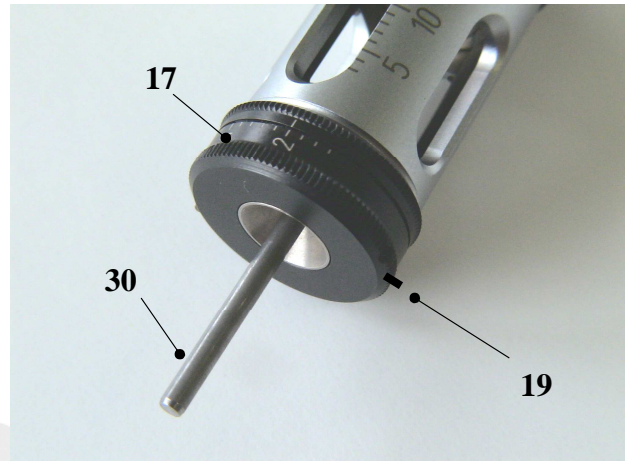

Fig. 10
- By rotating the centering scale (17), fully open the centering jaws (25) and insert the calibrating pin (30). Then by rotating the centering scale (17) close the centering jaws as far as the calibrating pin (30) Fig. 10.
- Loosen screw (19) (black) and turn the centering scale (17) clockwise to diameter 2.0 mm. Retighten screw (19) (black) and remove calibrating pin (30).